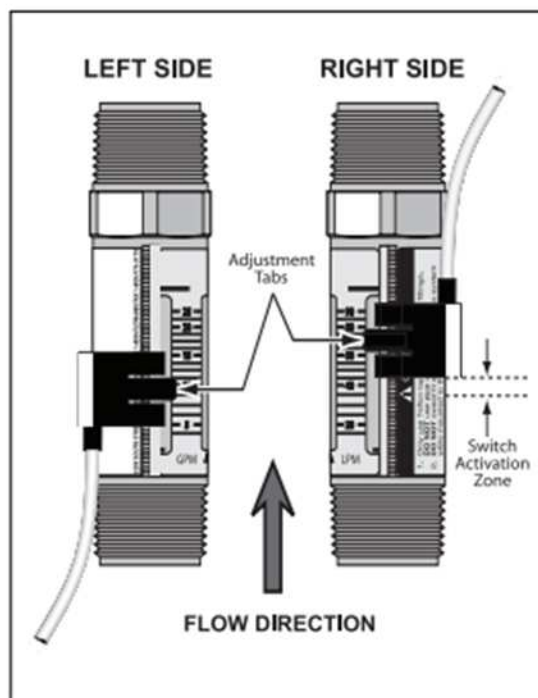

Figure 21. Switch Orientation
1. With fluid running through the meter, gently move the switch adjustment tab(s) outward until the switch body is free to slide up or down on the serrated rail. See Figure 21.
2. Move the switch into position until the switch activates. See Figure 21.